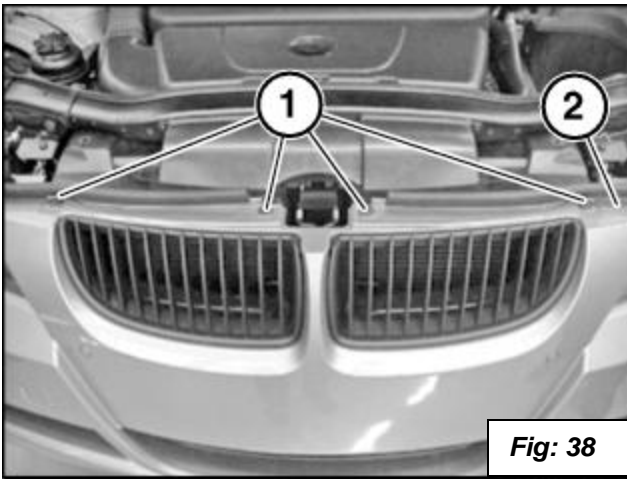

Fig: 38
49. Fasten the top screws (1) as shown in **figure 38** and the side screws (2) as shown in **figure 49**.